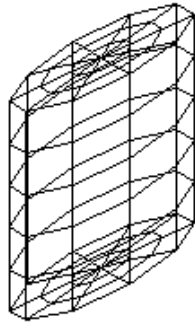

Figure 29-53 The mesh model created
6. Change the view to **SW Isometric** and the visual style to **3D Wireframe**. Figure 29-53 shows the meshed model.